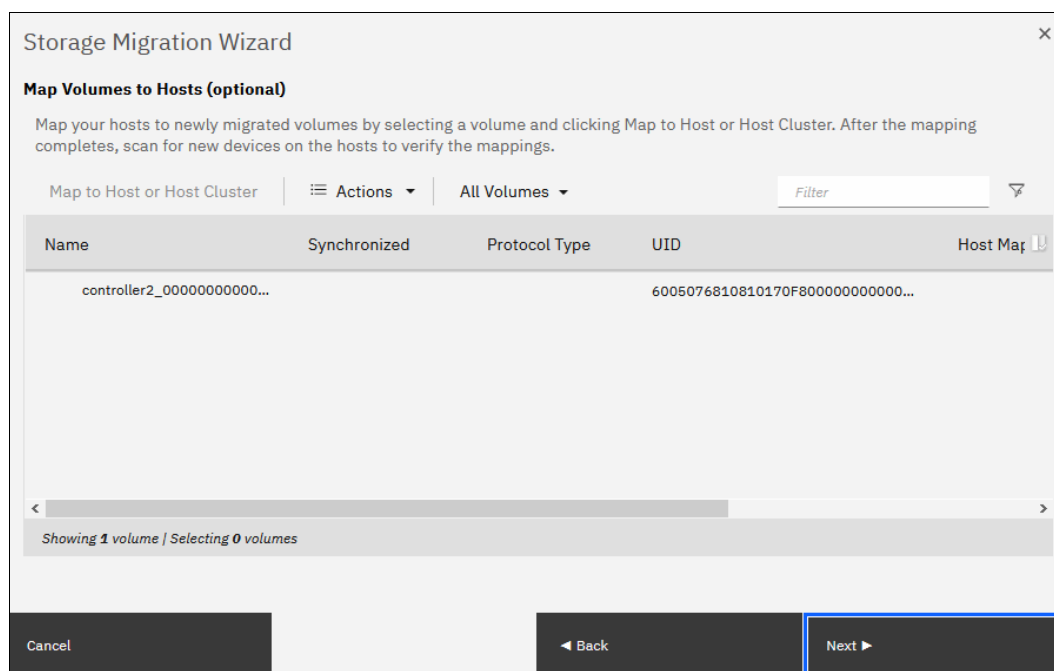

Figure 8-12 Mapping volumes to hosts
12. The next window lists the new volumes, where you can map them to hosts, as shown in Figure 8-12. The volumes are listed with names that were automatically assigned by the system. The names can be changed to reflect something more meaningful to the user by selecting the volume and clicking **Rename** in the **Actions** menu.